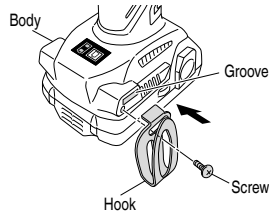

Fig. 9
- (1) Installing the hook and tightening the screws. Install securely the hook in the groove of power tool and tighten the screws to fix the hook firmly. (Fig. 9)